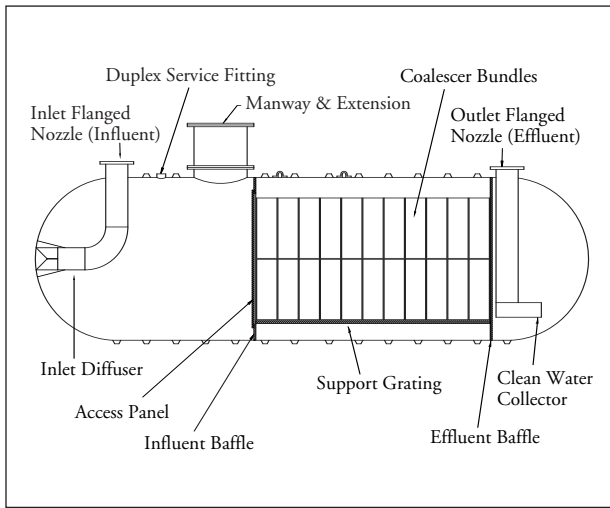
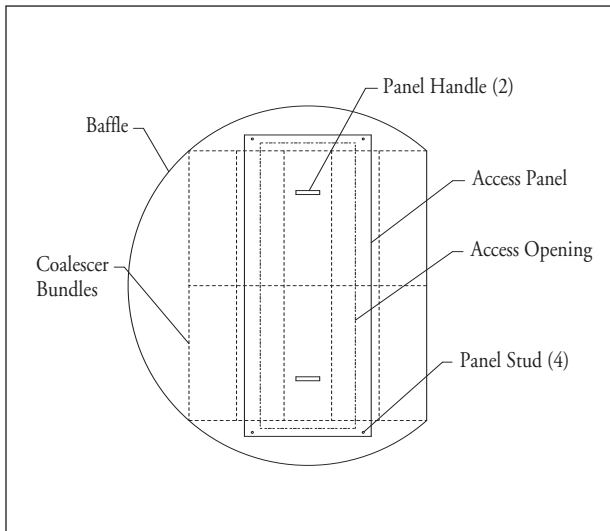

FIGURE 15-5
FIGURE 15-6
15.3.1. To remove a coalescer in an 8-foot- and 10-foot-diameter OWS, follow this procedure (See FIGURE 15-5 and FIGURE 15-6.):